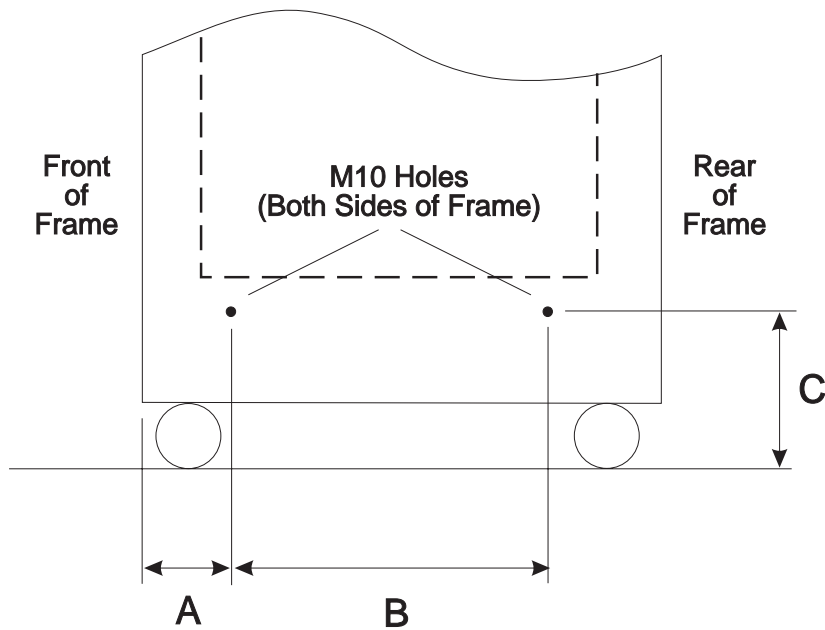

Figure 2-13. Specifications for Seismic Hardware
2.01 m Frame Seismic Tie-Downs: The 2.01 m RS/6000 SP frame has two M10 threaded holes on each side of the frame for attachment to customer-supplied hold-down applications. See Figure 2-13 on page 2-17 and Table 2-4 on page 2-17.